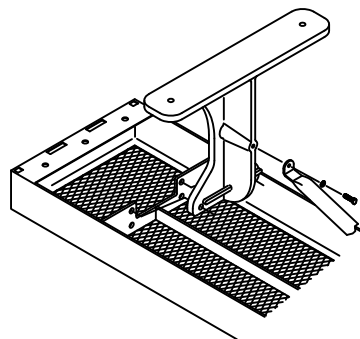
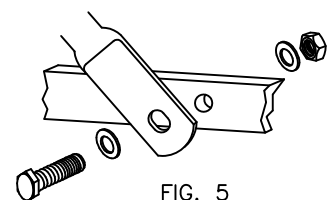

FIG. 4
FIG. 5
Invert seat top (B-) upside down on a flat surface. Attach both Gullwing legs (D1) to the inside of the seat's mounting brackets, see FIG. 4. Use two, per each leg, (I) and (G) using two (F) and one (K) per (I). Attach brace (D2) to leg using one (H) and (F), see FIG. 4. Attach other end of brace to seat support using one (E) and (G) using two (F) and one (K) per (E), see FIG. 5. Tighten all fasteners with wrenches and set bench upright.